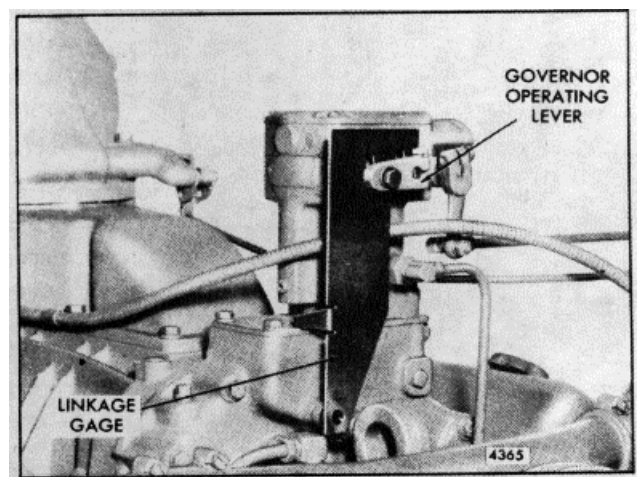

Fig. 4. - Positioning Governor Operating Lever
12. Replace the governor operating lever on the serrated shaft so that the bolt hole is lined up within the proper lines on the linkage gage (Fig. 4). The type of governor (SGX or PSG) will determine the proper position of the lever.